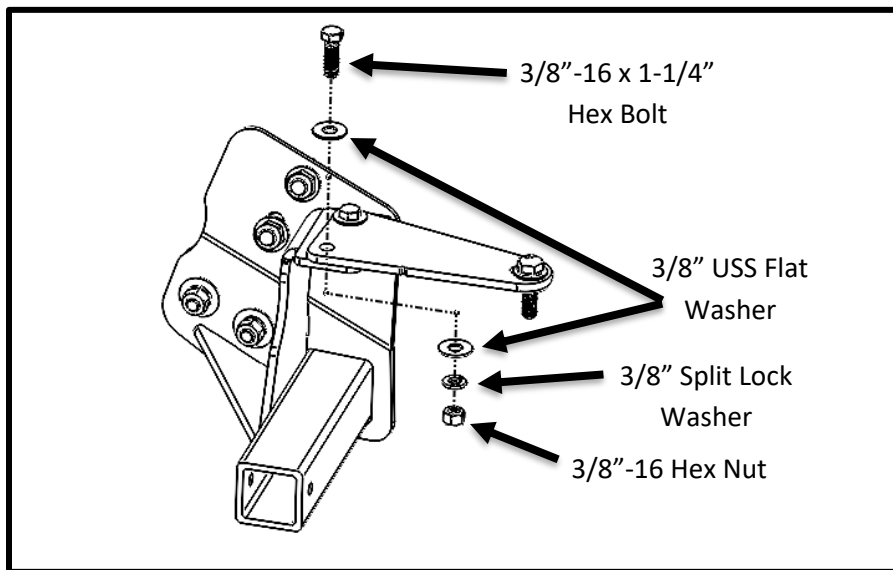

Figure 5.2 (Passenger Side, Frame Not Shown for Clarity)
- Loosely secure the Horizontal Gusset Plate to the Passenger Side Tiedown Receiver with one 3/8"-16 x 1-1/4" Hex Bolt, two 3/8" USS flat washers, one 3/8" Split Lock Washer and one 3/8"-16 Hex Nut per hole as shown in figure 5.2.